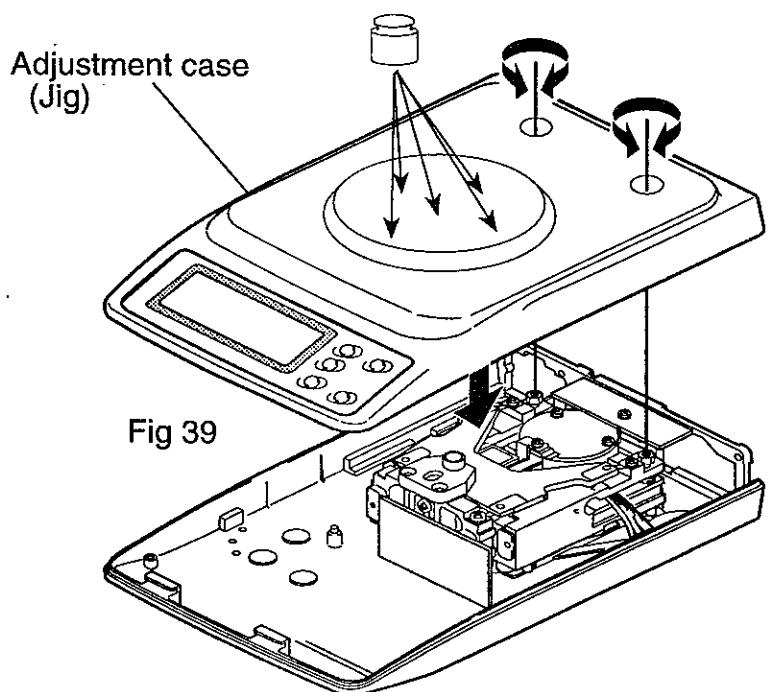

Fig 39
Step 17. Cancel the corner load error. Refer to "1. Corner load adjustment" of "5.11 Fine Adjustment". (Fig 39)